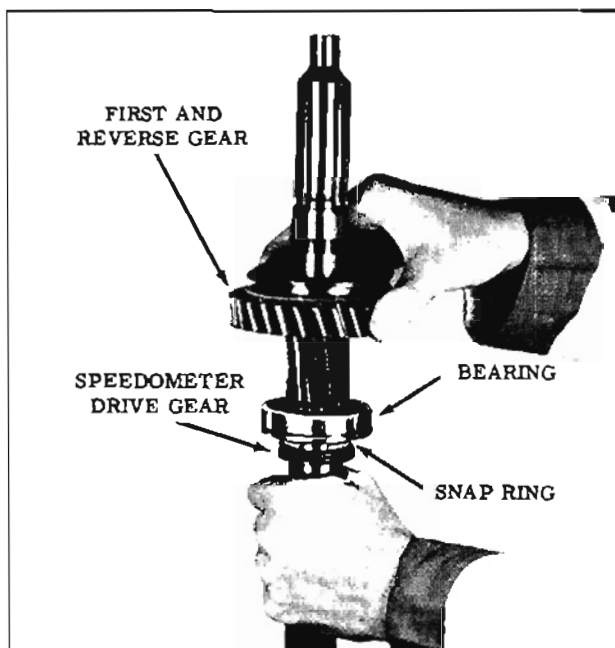

Fig. 7-24 Removing Bearing and Gear
3. Place the first and reverse gear on the main shaft with the flat side of the gear toward the bearing. Using the first and reverse gear as a slide hammer, remove the speedometer drive gear, retaining ring and bearing from the shaft. (Fig. 7-24)